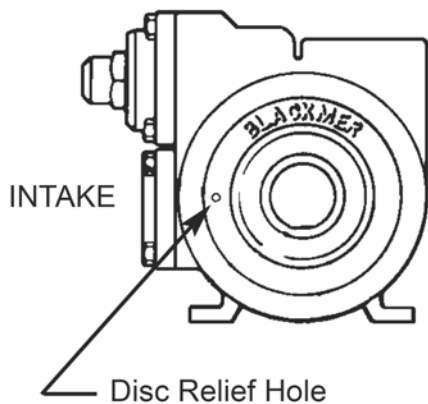

Figure 9 - Disc Relief Hole Location
4. Place the disc (71) against the head (20) with disc relief hole located so that when the head is mounted on the pump with the "Blackmer" name in an upright position, the disc relief hole will be at the pump intake (see Figure 9). Install and tighten the disc machine screws and lockwashers (71A and 71B). The drive tangs of the seal jacket should protrude through the center hole of the disc.